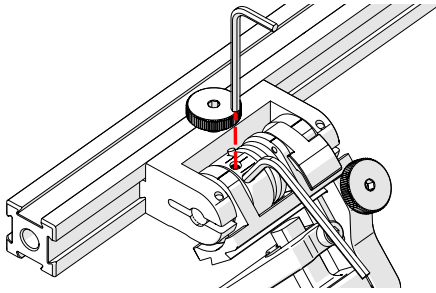

Fig. 100 - Insert hex tools
4. Place the 2 mm hex wrench into the force adjustment screw (*Fig. 100*).